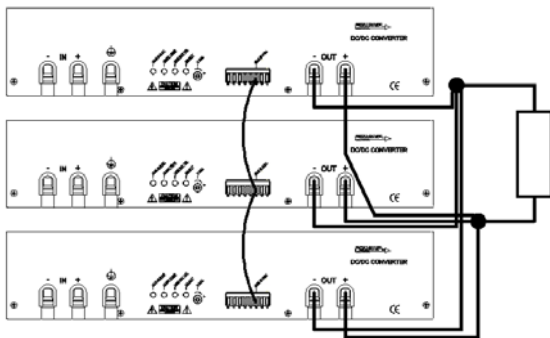
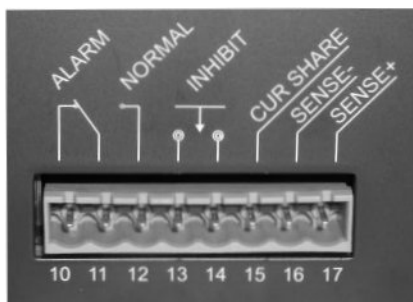
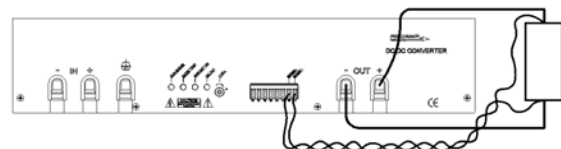

Figure 3. Current share connection with series diode.
Figure 4. Signal connector
Figure 7. External sense.
To achieve good power sharing, the voltage drop between the minus poles must be kept as low as possible, see *Figure 3. Current share connection with series diode.* and *Figure 4. Signal connector.* It is important that all cables between the converters and the distribution point has the same length. The plus poles can either be connected as in *Figure 3.* or have separate cables to the load.
See *Figure 4. Signal connector*.
2. Connect a twisted-pair (0.25mm² - 1.5mm²) between the “SENSE +” (17) and “SENSE -” (16) (see *Figure 4. Signal connector*) of the converter and the load. The sense leads and the power cables shall be of approximately the same length and drawn as close to each other as possible. **Beware of correct polarity!** “SENSE +” to plus at the load and “SENSE -” to minus. See *Figure 7 External sense*.
The converter is shut-down if the inhibit input 13 and 14 (see *Figure 4. Signal connector.*) is short-circuited by a relay or an electrical switch. The current through the short-circuit is 20mA. Note that there is no electrical isolation between the “inhibit” and the output.